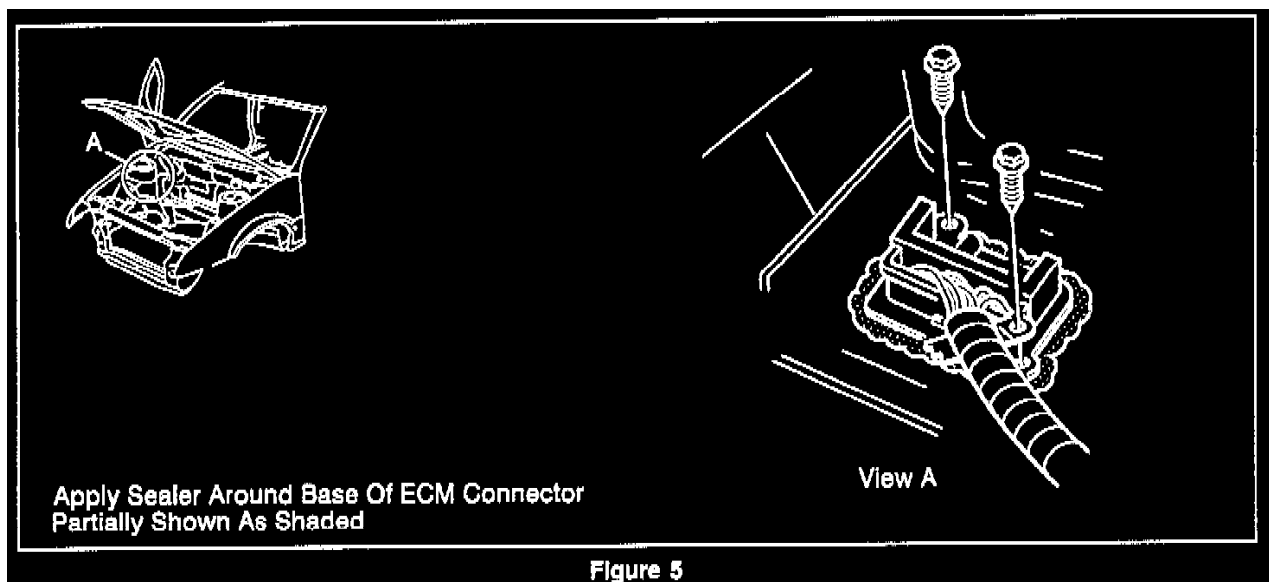

Figure 5
4. Distortion or void in ECM connector gasket. Refer to Figure 5.	<ol style="list-style-type: none"> <li>1. Remove air Inlet screen. Refer to Section 10-5 of the Service Manual.</li> <li>2. Inspect for lumps in the seam sealer which could distort the ECM connector gasket. Refer to Step 6 if there are not any lumps in the seam sealer which could cause the ECM gasket to distort.</li> <li>3. Remove the ECM connector.</li> <li>4. Remove seam sealer lumps.</li> <li>5. Install ECM connector.</li> <li>6. Inspect for a void in the ECM connector gasket.</li> <li>7. Apply clear sealer around entire perimeter of ECM connector.</li> <li>8. Allow sealer to dry.</li> <li>9. Direct water around ECM connector.</li> <li>10. Inspect from passenger compartment for leaks.</li> <li>11. Install air Inlet screen. Refer to Section 10-5 of the Service Manual.</li> </ol>